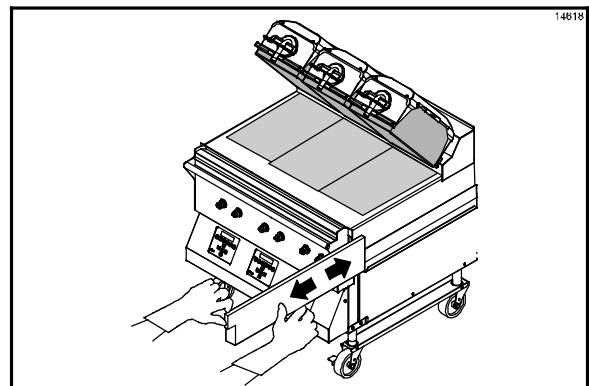

Figure 40
7. Remove, empty, and reinstall the grease pans. (See Figure 40.)